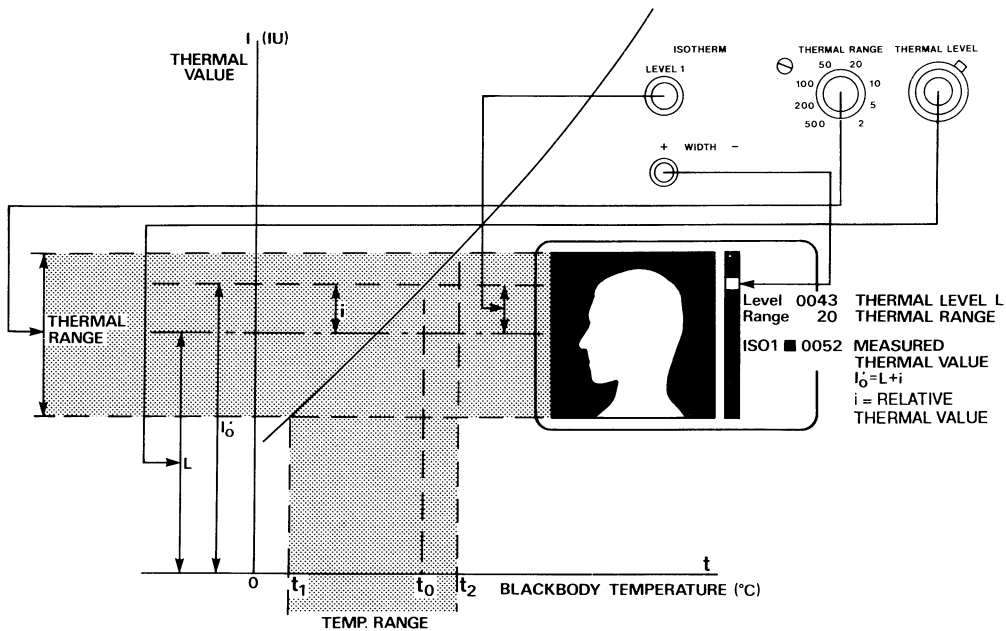

Fig. 8.2 Relative Temperature Measurement Procedure
- (a) Switch on an isotherm (e.g. LEVEL 1) and place the isotherm marker at approximately 1/4 from the top of the isotherm scale (see Fig. 8.2).